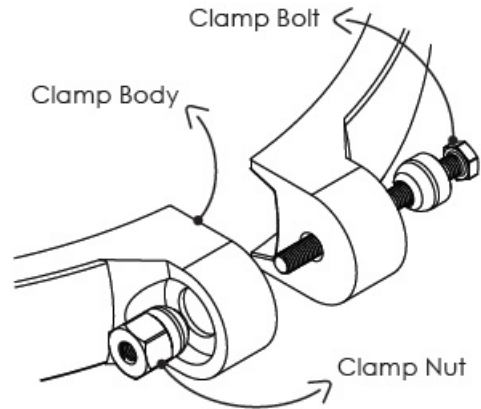

Figure 10
2. Assemble the Clamp Body around the Filter Body. (See Fig 10)